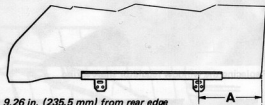

Fig. 12.9. Correct location of door glass in support channel (Saloon models). (Sec. 13)
- 7 If a new glass is being installed, fit the support channel to its lower edge in accordance with the diagram (Fig. 12.9).